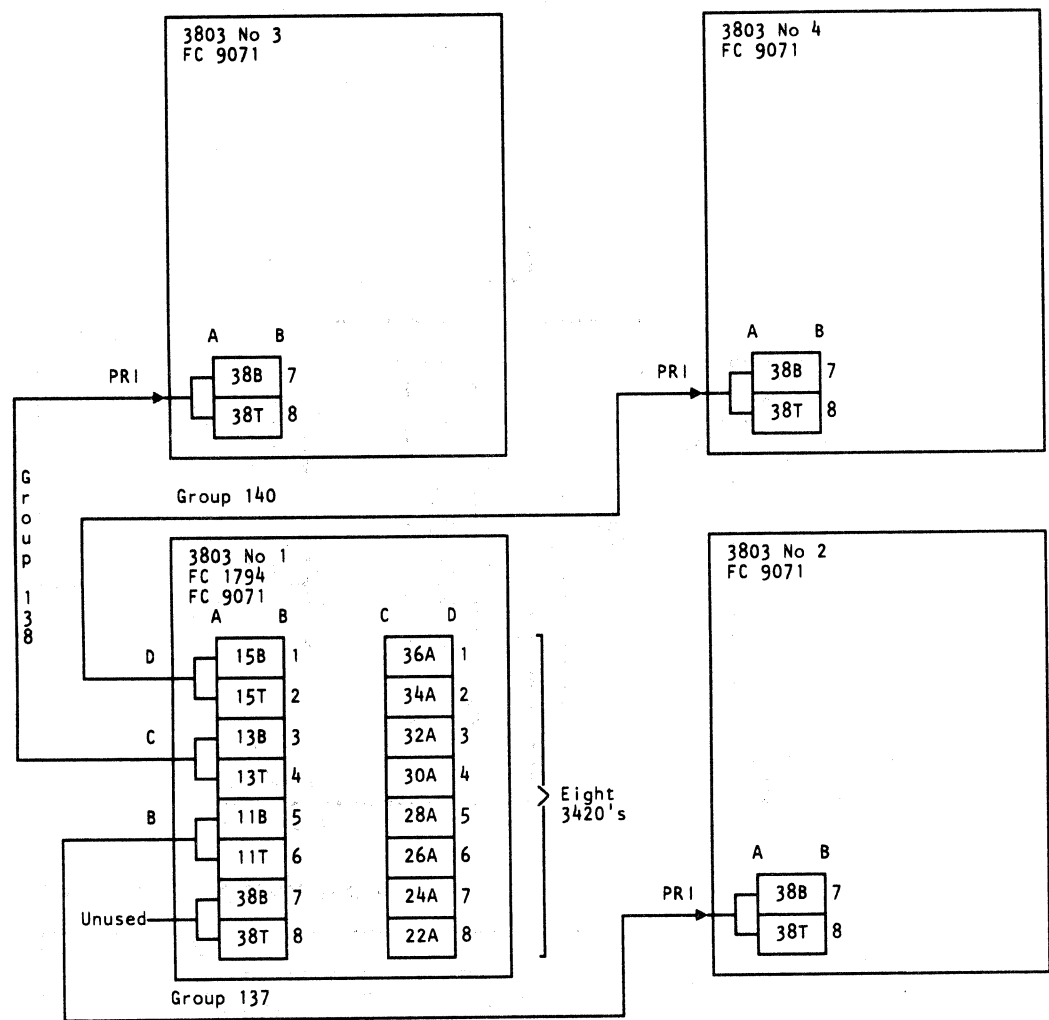

Figure 5. 4 x 8 Switch Option
- 4 Control Switch (4 X 8 or 4 X 16 configuration, see Figures 5 and 6 on page 90-052)